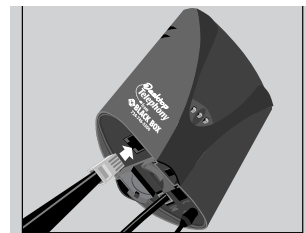

Figure 2-2. Connecting the Hookswitch to the Base, Step 3.
3. Connect the Hookswitch to the base by inserting the cord's large plug into the port marked AUX at the bottom of the base (Figure 2-2).